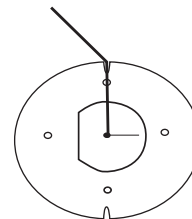

Figure 3
3. Pull the desired amount of microphone wire through the mounting plate, then thread the wire through either of the grooves on the edge of the mounting plate (Figure 3).